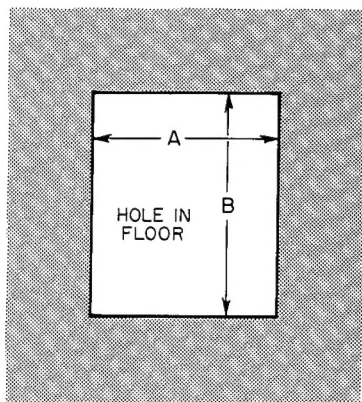

Fig. 3—Floor Opening for Concrete Slab
- Construct hole in floor per dimensions in Fig. 3 and Table 4.